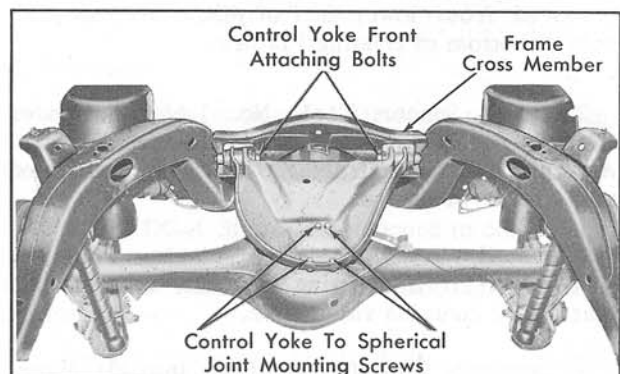

Fig. 4-29 Control Yoke Installed
3. Pull down on yoke and attach rear end to spherical joint. Secure with four bolts, tightening bolts to 35-40 ft. lbs. torque, Fig. 4-29.